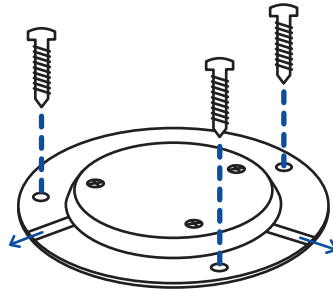

Figure 6e. Secure mounting plate against surface underside
- The ChargeSpot requires three (3) no.6 x 1/2" Phillips round-head wood screws to be installed into the mounting plate to hold the charger in place (see dashed circles in Figure 6e). The OEM should ensure that the no.6 x 1/2" Phillips screws do not penetrate the substrate surface. This completes the steps necessary to mount the ChargeSpot.
- Zip ties can be applied at three (3) points on the mounting plate to tether excess cable to the device (arrows in Figure 6e).